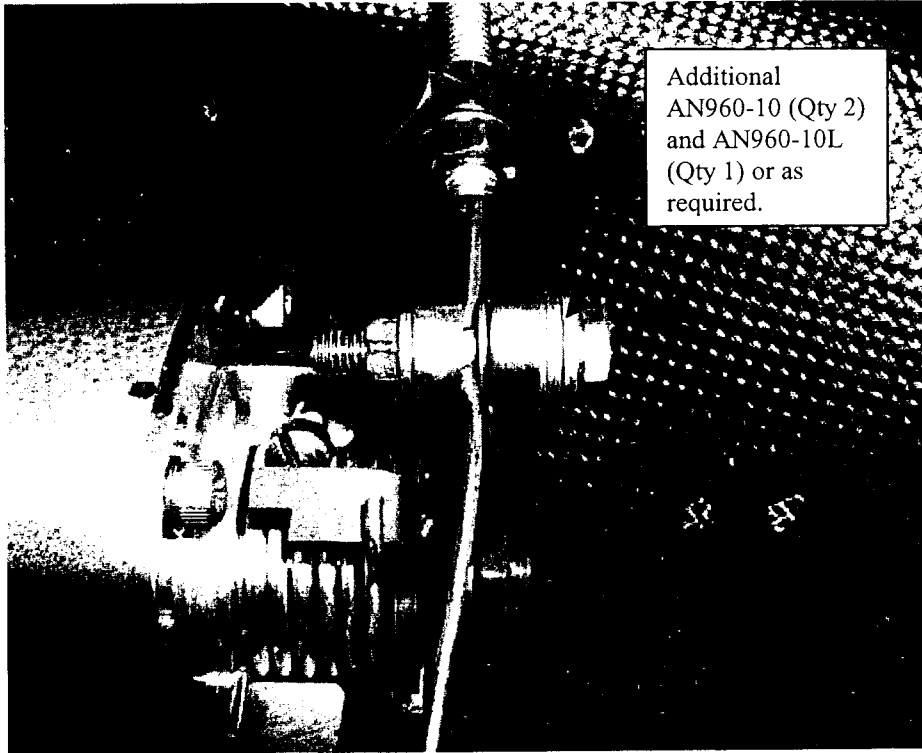

Figure 2: Hartzell S-1-6 Governor Installation
2. Attach the control cable bracket (Diamond P/N D41-6126-00-01) to the top of the S-1-6 governor using two of the socket-head cap screws attaching the governor head to the body. Torque the screws holding the cable bracket to 21-25 in-pounds (Note: that is inch-pounds, NOT foot-pounds). See bracket installed in Figure 2.
4. Connect the RPM control cable to the S-1-6 governor. All hardware used to connect the RPM control cable as specified in the DA 40 aircraft service and parts manuals are used to connect the cable to the S-1-6 governor. However, additional washers are required to locate the head of the clamping screw at the preferred height above the control arm. In the installation photo shown in Figure 2, two AN960-10 and one AN960-10L washers are placed under the head of the clamping screw.